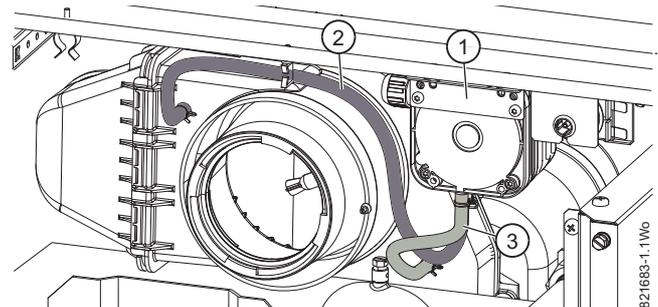

Fig. 99 Sensing tube connections
- ▶ Ensure that the sensing tubes are connected correctly, refer to figure 99